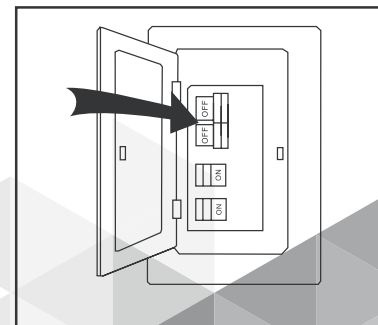

Fig.1
1. Turn OFF the electric circuit at the main fuse or circuit breaker box (Fig.1).